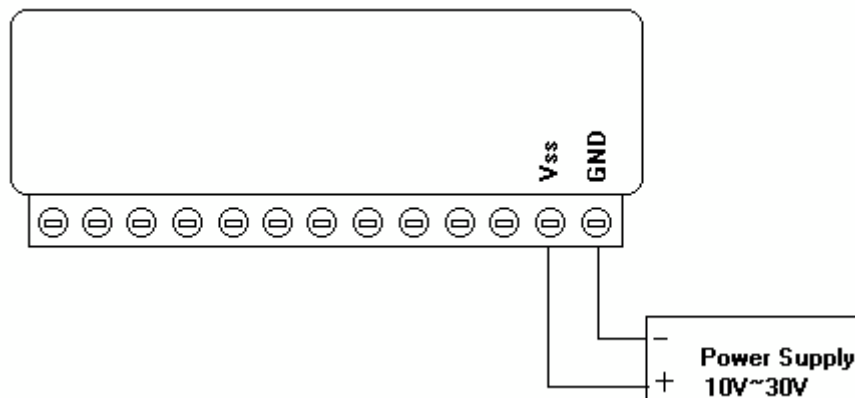

Figure 3-1 Power wiring
- Make sure to prepare all of the items above, then connect the power and network wiring as Figure 3-1 Power wiring.